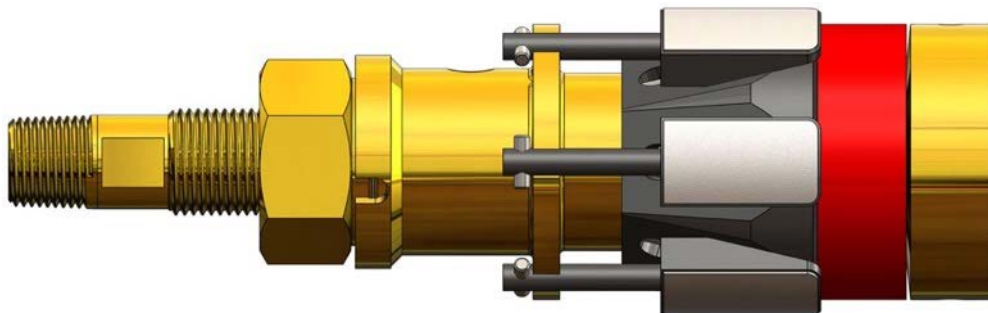

Figure 6: Ready to Install State (Compressed)
- 5.2 Tighten the **Compression Hex Nut (2)** until the ORB **Spring Plate (3)** is flush with the **Wedge Cone (6)**. Refer to Figure 6 for reference.
- Avoid over-torquing the **Compression Hex Nut (2)** to prevent the **Seal (9)** from expanding beyond the outer diameter (OD) of the plug.
- In the Compressed state, as shown in Figure 6, the GripSafe ST ORB plug will grip the pipe immediately upon insertion.
**CHECK:** Ensure the plug is clean and free of debris before each use. Each **Wedge Gripper (11)** should move freely in its slot without resistance. Any blockage from dirt or contaminants can prevent proper gripping, potentially causing the plug to eject under pressure, leading to injury, material loss, or equipment damage.